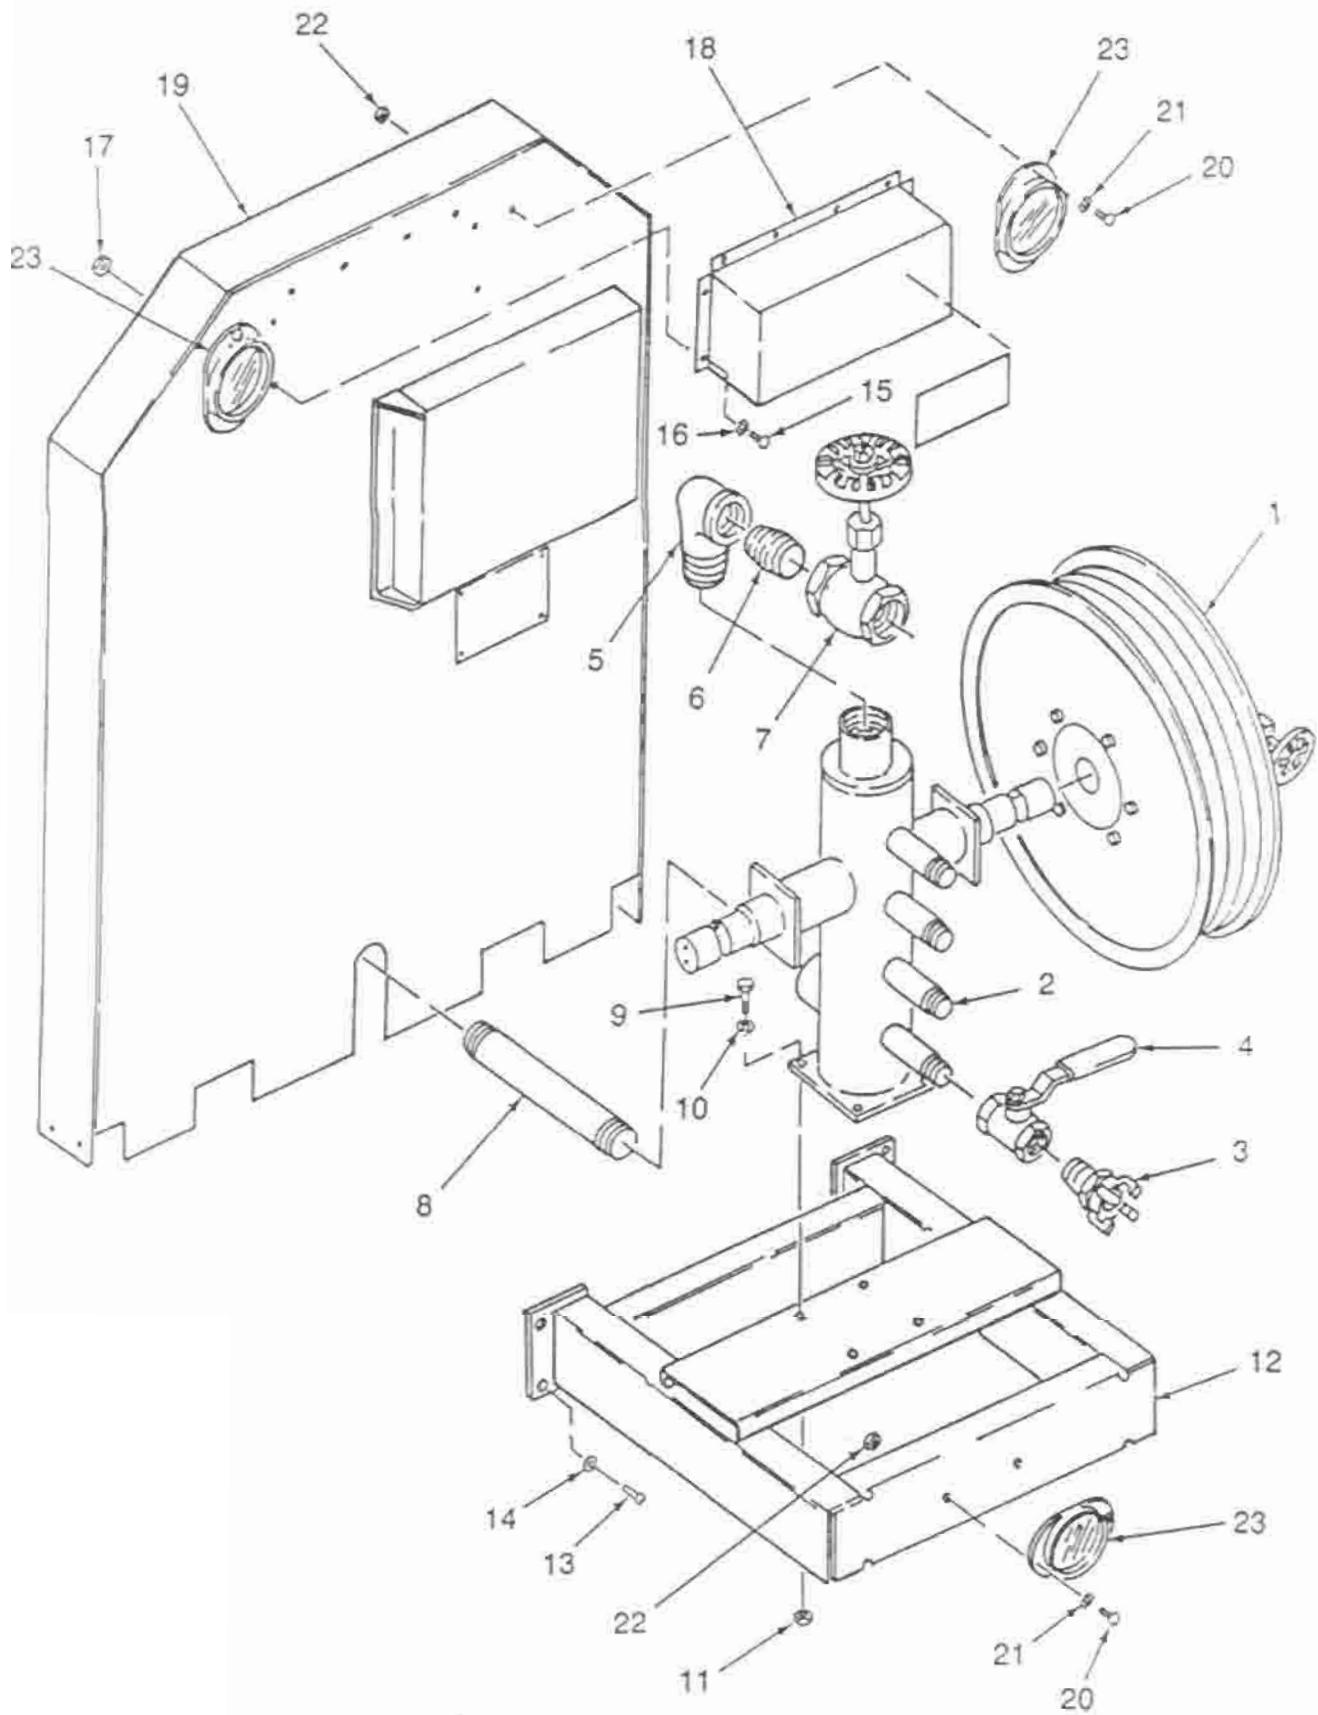
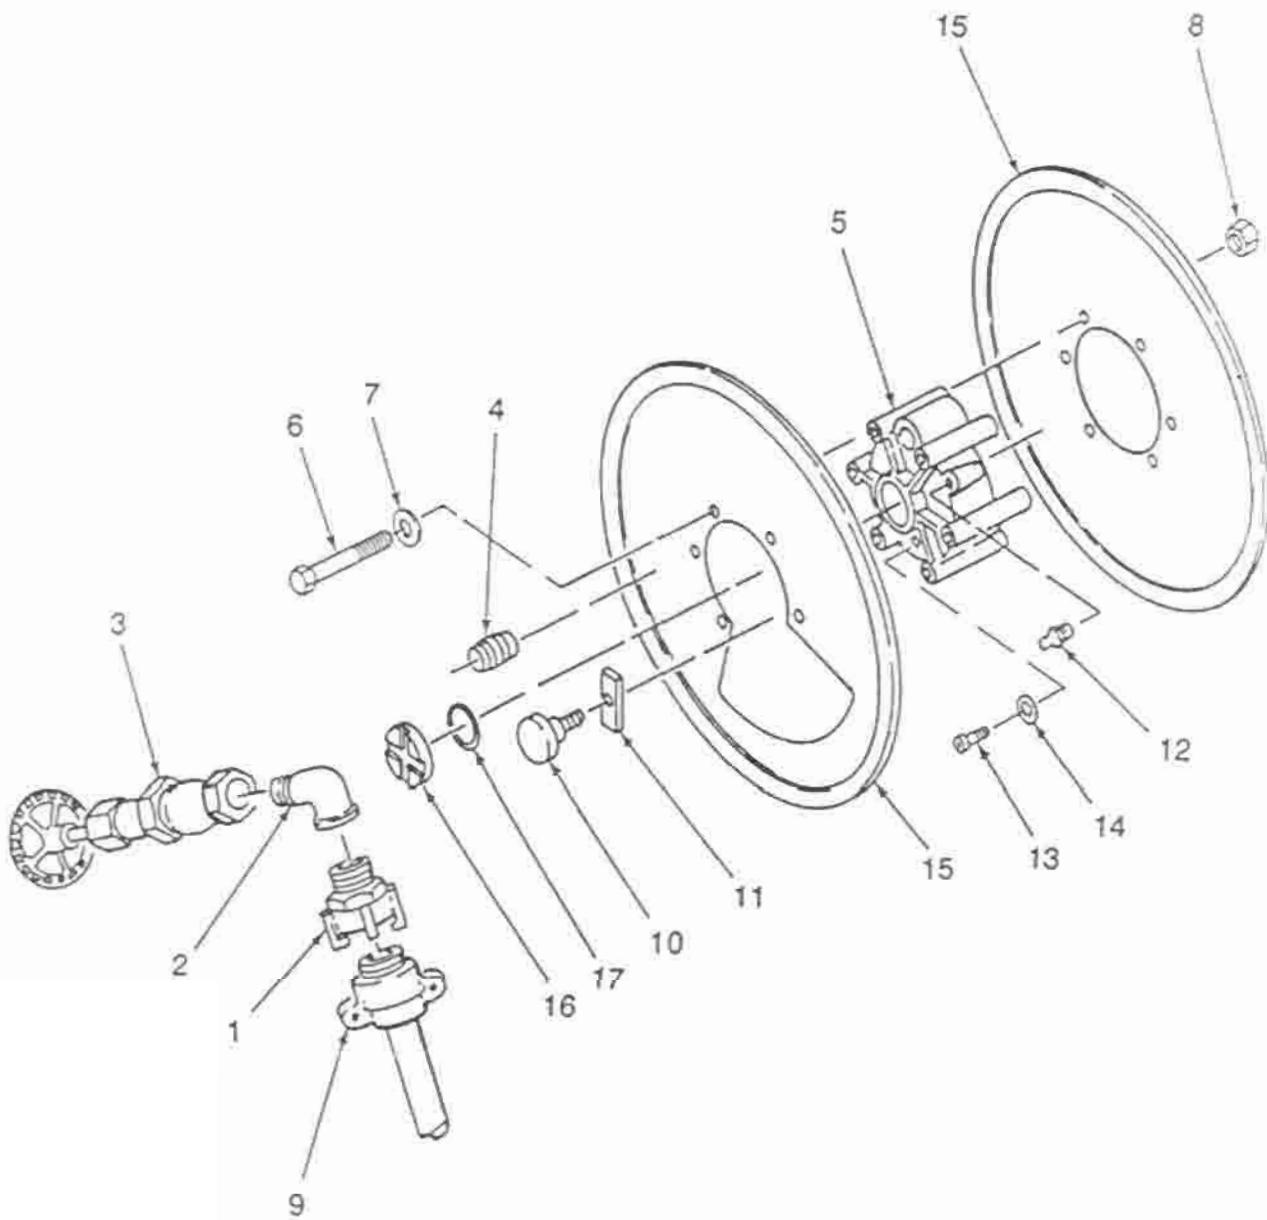

Figure 3-5. Hose Reel Assembly And Service Manifold
Figure 3-6. Hose Reel Disassembly
3-14. Hose Reel Assy And Service Manifold. (Refer to Figure 3-5).
a. Remove service hoses (9, Figure 3-6) from hose reels assemblies (1, Figure 3-5). Remove hose reel assemblies (1) from service manifold (2) by removing the hose reel retainer (16, Figure 3-6). Refer to paragraph 3-15 for additional details.
1. Remove four claw couplings (3), four ball valves (4) from service manifold (2).
c. Remove elbow (5) from top of service manifold (2) and remove nipple (6) from elbow (5) and globe valve (7).
KEY TO FIGURE 3-5
3-15. Hose Reel Disassembly (Figure 3-6). After removing hose reel from compressor unit (para. 3-14, step a), disassemble hose reel as follows:
KEY TO FIGURE 3-6